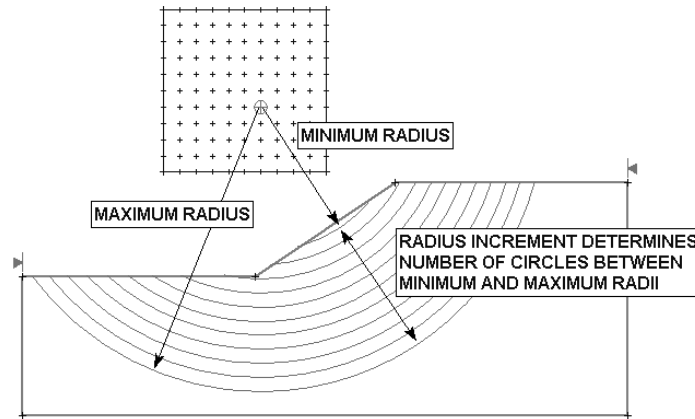

Figure 1-7: Method of slip circle generation for Grid Search, using Slope Limits and Radius Increment.
- For each slip center grid point, suitable Minimum and Maximum radii are determined, based on the distances from the slip center to the slope surface, as shown in Figure 1-7.